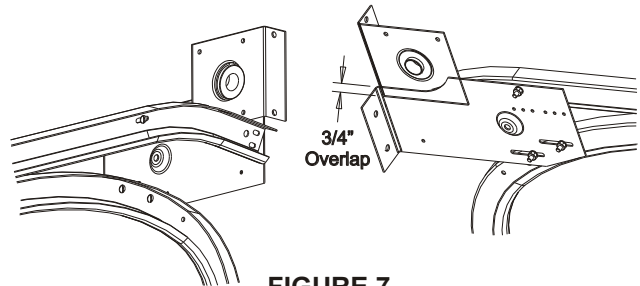

FIGURE 7
1. Install the headplate on the inside of the low headroom headplate with a 3/4" of overlap between the headplates. (Figure 7)